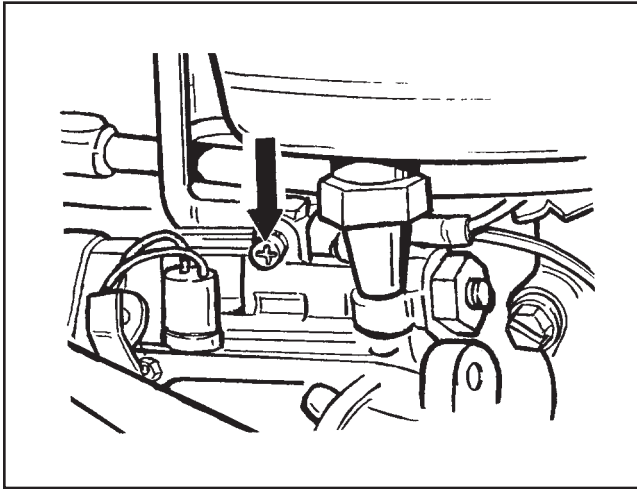

Figure 2C-12. Idle Speed Adjustment
2. Adjust the counterbalance screw (see Figure 2C-13) to obtain proper deflection in both cables. Proper cable deflection is 1/8 to 3/16 inch.